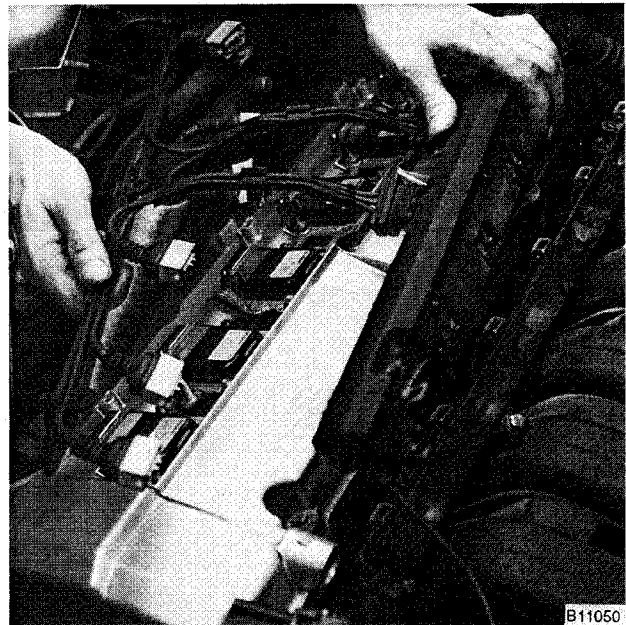

Fig. 15. Injector wiring harness duct being removed from M50 engine.
3. M50/S50US engines: Remove two nuts from injector duct. Carefully pry injector wiring duct off injectors. See Fig. 15.